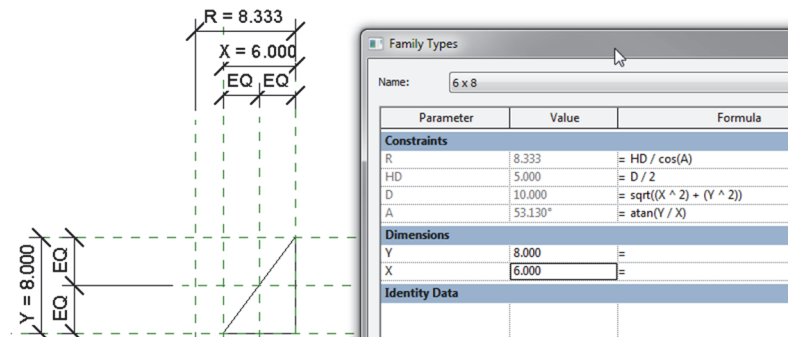

FIGURE 4.31
6. Flex the family by creating a few Family Types (see Figure 4.31).